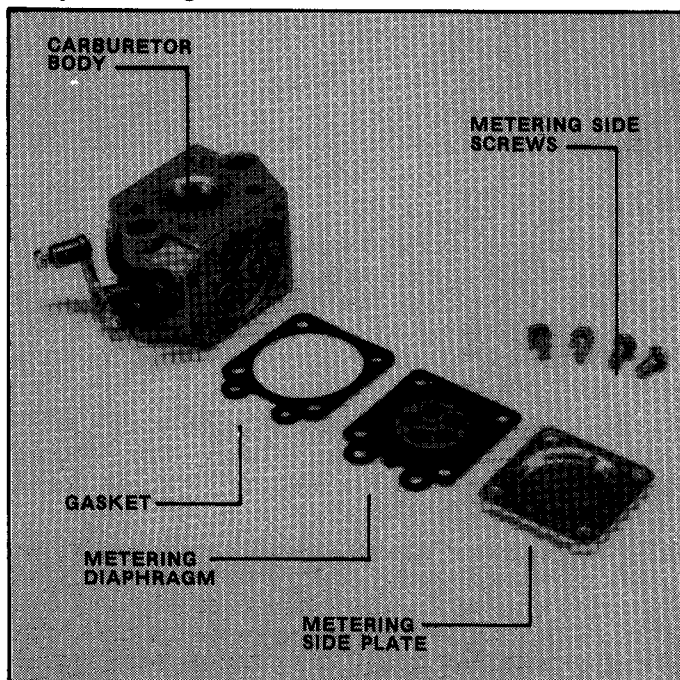

FIGURE 2.3
A. Remove the four screws in the metering side plate. Care should be taken in removing the plate not to damage the gasket or the metering diaphragm. Note for re-assembly the placement of the diaphragm outside with its small metal center facing out and the gasket inside against the carburetor body. See Figure 2.3.